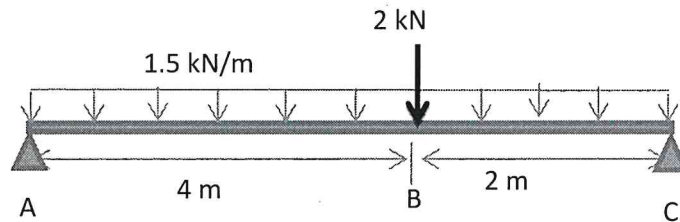

Figure 2 / Rajah 2
Figure 2 shows a 6m simply supported beam carries a uniform distributed load of 1.5 kN/m over the entire span and a point load of 2 kN at 2m from the right support.
- (a) Referring to Figure 2, with the aid of free body diagram for the beam, express the value of reaction force.